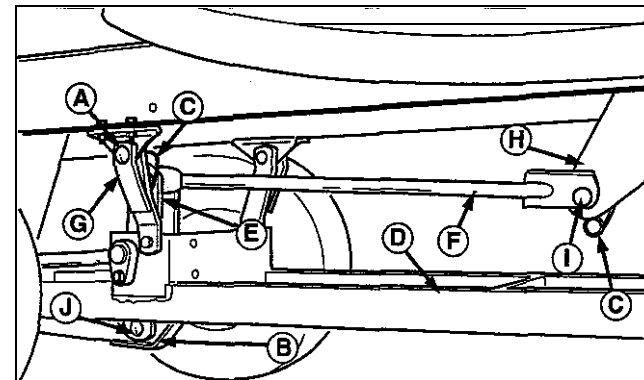

figure 30
7. See Figure 30. Disconnect the sweeper lift arm (B) from the hitch lift arm (E).
10. See figure 30. Disconnect the lift rod (F) from the lift extension (H).
11. See figure 30. Remove the clevis pins (A) attaching the front and rear of the hitch to the tractor. Remove the hitch.
12. If the mower deck is being installed, remove the lift extension (H, figure 30).